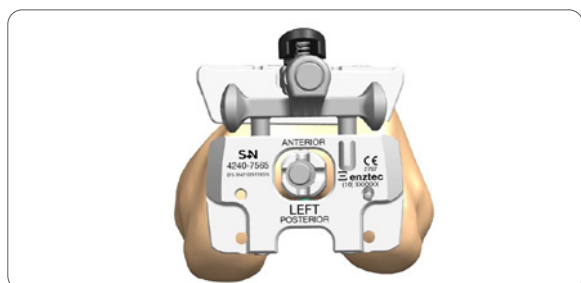

Figure 73
3. Orient rotation of the assembly neutral to the posterior condyles and insert a non-headed 65mm pin into one of the distal holes to maintain rotation (**Figure 73**).